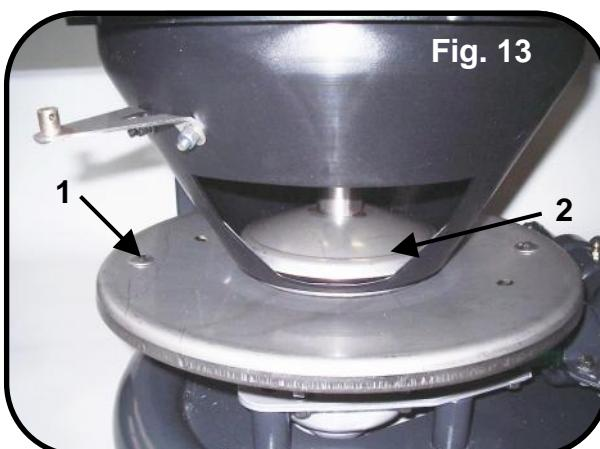
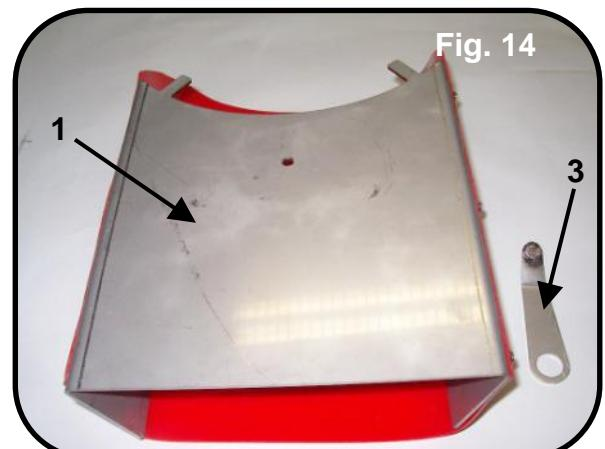
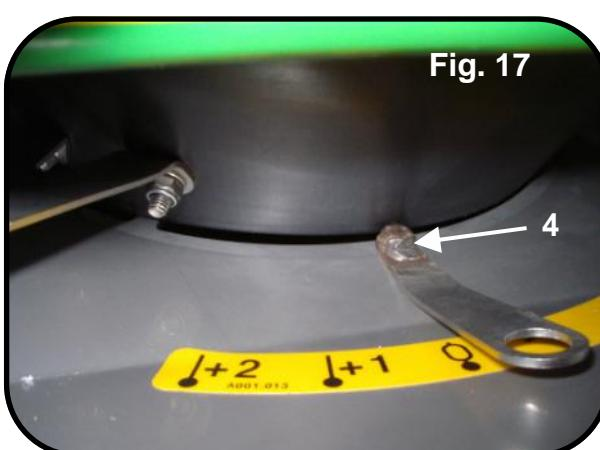

Fig. 13
Fig. 14
Fig. 17
**HOW TO PROCEED:** Remove the vanes from the two spreading discs (Fig. 13).
**N.B.** Apply the two bolts with swelled heads again, using washers and nuts (particular 1 Fig. 13) on the disc of the test. While passing under the red plastic casing, these bolts shift the fertilizer and favour the product decent. Move the feed cone (the left one clockwise, the right one anti-clockwise) in order to position the fertilizer release orifice onto the disc towards the rear part of the machine (Fig. 13). Insert the device (particular 1 Fig. 14) into the feeder (particular 2 Fig. 13, 15 and 16), fix the clamp (particular 3) by hitching together the anti-turbulence and the quantity device with a bolt and a nut as indicated in Fig. 17 and 18, thus obtaining the assembly of 19.